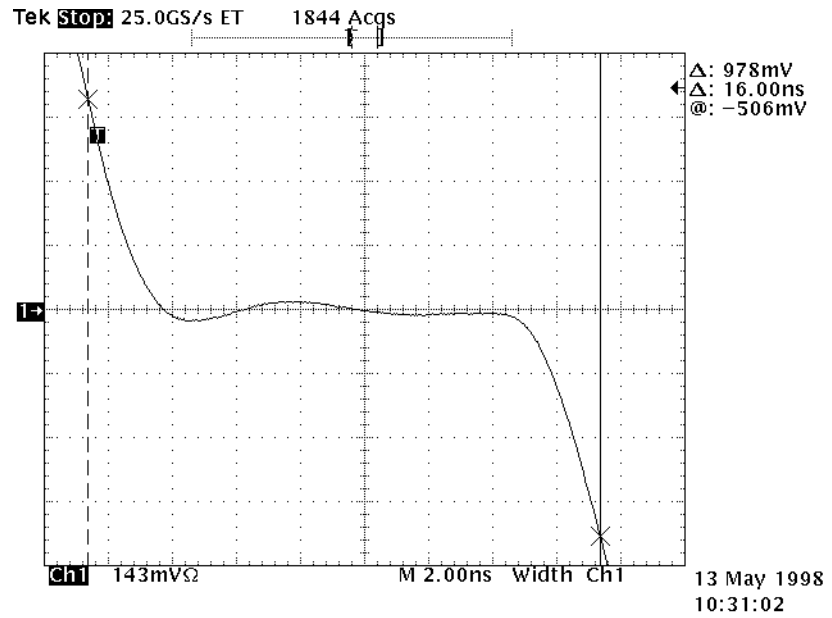
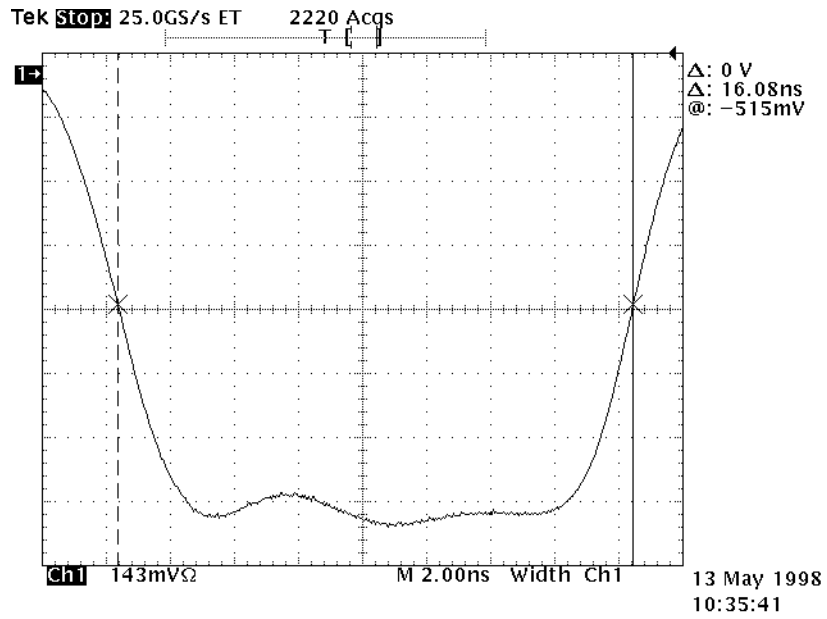

Figure 13-5. MLT-3 mid-level width at 50% levels
Figure 13-6. Negative pulse width at 50% amplitude level
10. Repeat steps 4 through 9 for the mid-level negative waveform, as shown in Figure 13-5 and Figure 13-6.